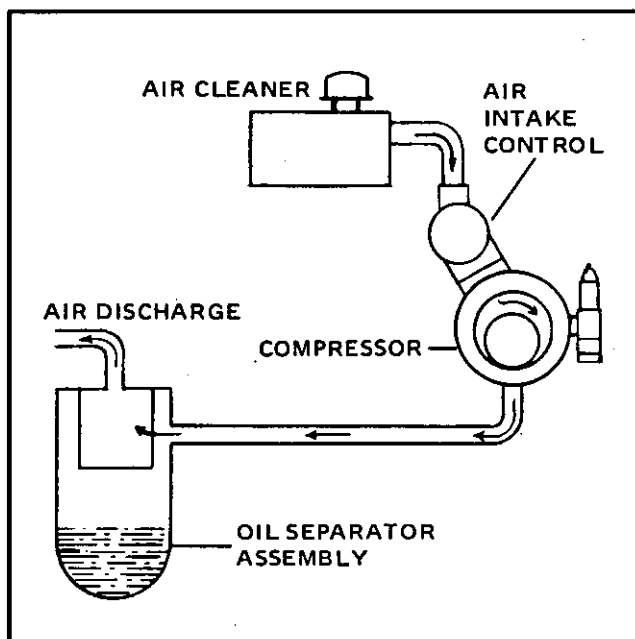

Figure 1-1. Air cycle schematic diagram
a. **AIR CYCLE.** (See figure 1-1.) Free air is drawn into the stator through the air cleaner and intake control. The air enters through large ports in the end cover at a point where the vanes are well out of the rotor slots, thus filling the space segments between the vanes with air. In rotation, the vanes are moved radially inward in their slots by the bore wall. The volume between the vanes decreases, thus compressing the trapped air. At the rated point of compression, the discharge ports are reached and the compressed air passes into the discharge chamber. Oil is injected during the above cycle to cool the air, seal all leakage and lubricate all rubbing parts. The discharge chamber is positioned at the bottom of the stator to favor natural oil drainage.